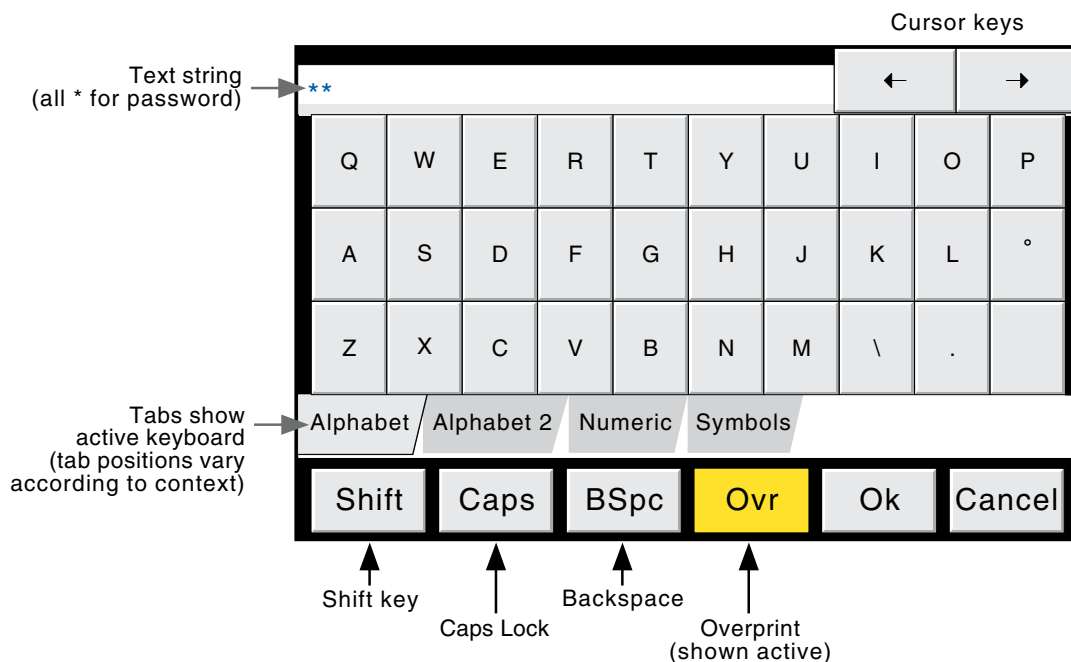

Figure 3.3.2b Alphabet 1 keyboard
The *New Password* panel appears, displaying a keyboard (see example Figure 3.3.2b Alphabet 1 keyboard).
- 3 Touch the blank Password area to call the keyboard display (see figure 3.3.2b).
The keyboard which appears when the password area is touched is the same as that which appears when any non-numeric text string entry is required (e.g. channel descriptor). Figures 3.3.2b and 3.3.2c below are an attempt, within the limitations of the illustrating process, to depict the available keyboards and thus the available character set. Actual entry of the text string is by touching the relevant keys.